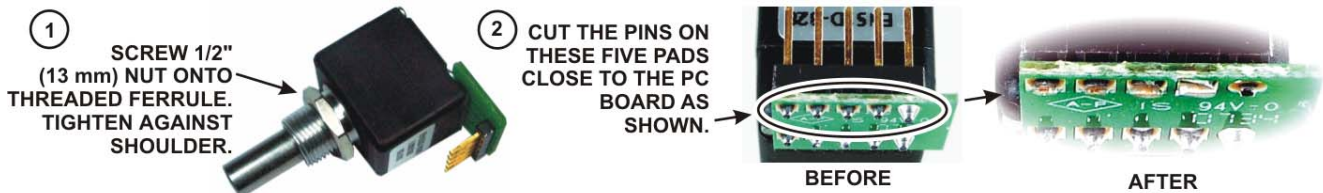

Figure 43. VFO B Encoder Assembly Preparation for Installation.
□ Prepare the remaining encoder for VFO B as shown in Figure 43. Be sure the nut is tight against the shoulder of the ferrule. Cut only the five pins shown close to the back of the pc board so they do not extend above the solder pads. Cutting them avoids the possibility of a short circuit to an adjacent pc board when the K3 is assembled.